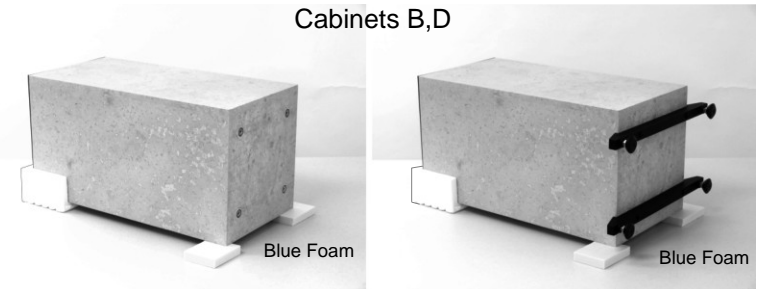

Fig. 4
6. From boxes with cabinets B,D remove the top four (4) foam corner protectors and place two (2) in the up position on a solid surface. Next, locate the four (4) small blue foam squares provided and place two (2) for each cabinet as shown in Fig. 4. Finally, move each cabinet and place it face-up, with the back side resting on/in the foam corner pieces as shown in Fig. 4. This allows clearance for installation of the Base Supports.